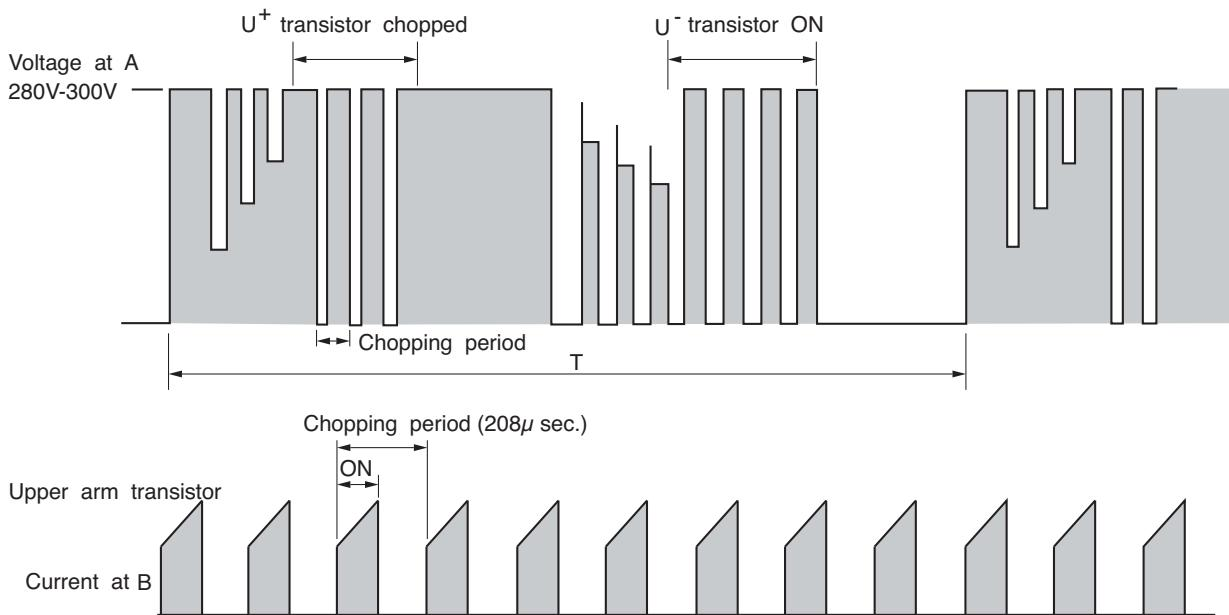

Fig. 4-3 Voltage waveform at each point
Fig. 4-3 shows voltage waveform at each point shown in Figs. 4-1 and 4-4. First half of upper arm is chopper, second half is ON, and first half of lower arm is chopper, second half is ON.
Since current flows at point ② only when  $U^+$  transistor and  $V^-$  transistor is ON, the current waveform at point ② becomes intermittent waveform as shown in Fig.4-3. Since current at point ② is approximately proportional to the input current of the air conditioner, input current is controlled by using DC current ( $I_d$ ) detection resistor.